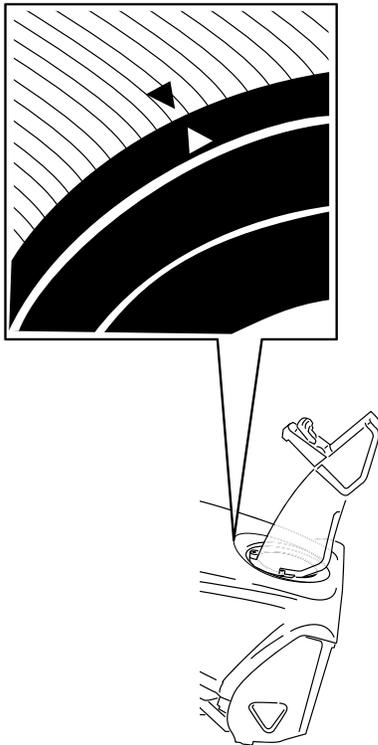

Figure 33
- Rotate the discharge chute so that it faces straight ahead and the arrow on the back of the discharge chute aligns with the arrow on the shroud (Figure 33).